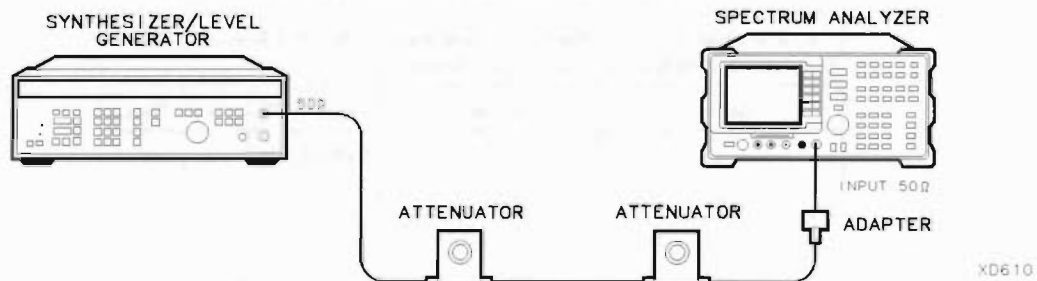

Figure 2-20. Reference Level Accuracy Test Setup
2. Connect the equipment as shown in Figure 2-20. Set the 10 dB step attenuator to 10 dB attenuation and the 1 dB step attenuator to 0 dB attenuation.